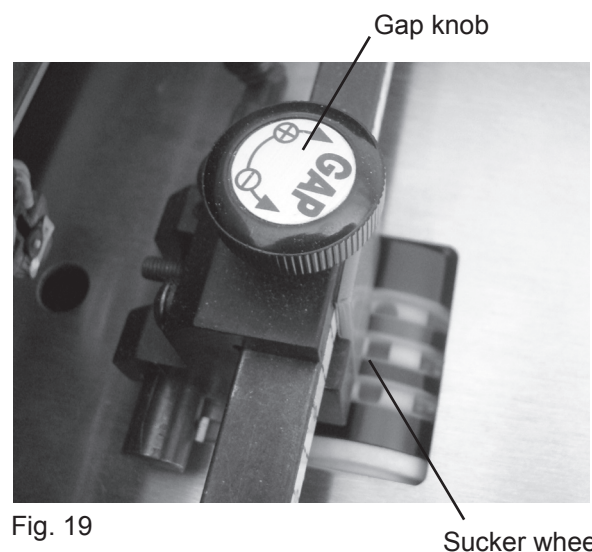

Fig. 19
1. With the machine running, insert two sheets of paper between the tab and the sucker wheel. (Fig. 19)